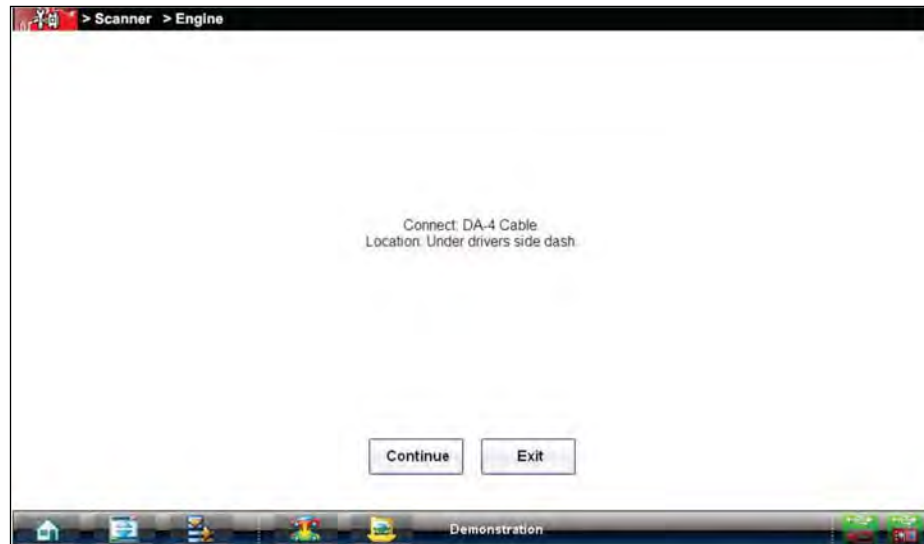

Figure 5-12 Vehicle connection data cable message
On-screen cable and adapter connection instructions are provided while using the Scanner and OBD-II/EOBD functions. The instructions may also include the location of the vehicle DLC (Figure 5-12). If required, additional connection information can be found in the appropriate vehicle communication software manual for the vehicle. Vehicle communication software manuals are available online, see the website information at the front of this manual
1. Follow the on-screen instructions for connecting to the vehicle (Figure 5-12).
Make a selection from the systems available for testing list and instructions for connecting the Scanner to the vehicle with the data cable display on the screen (Figure 5-12).